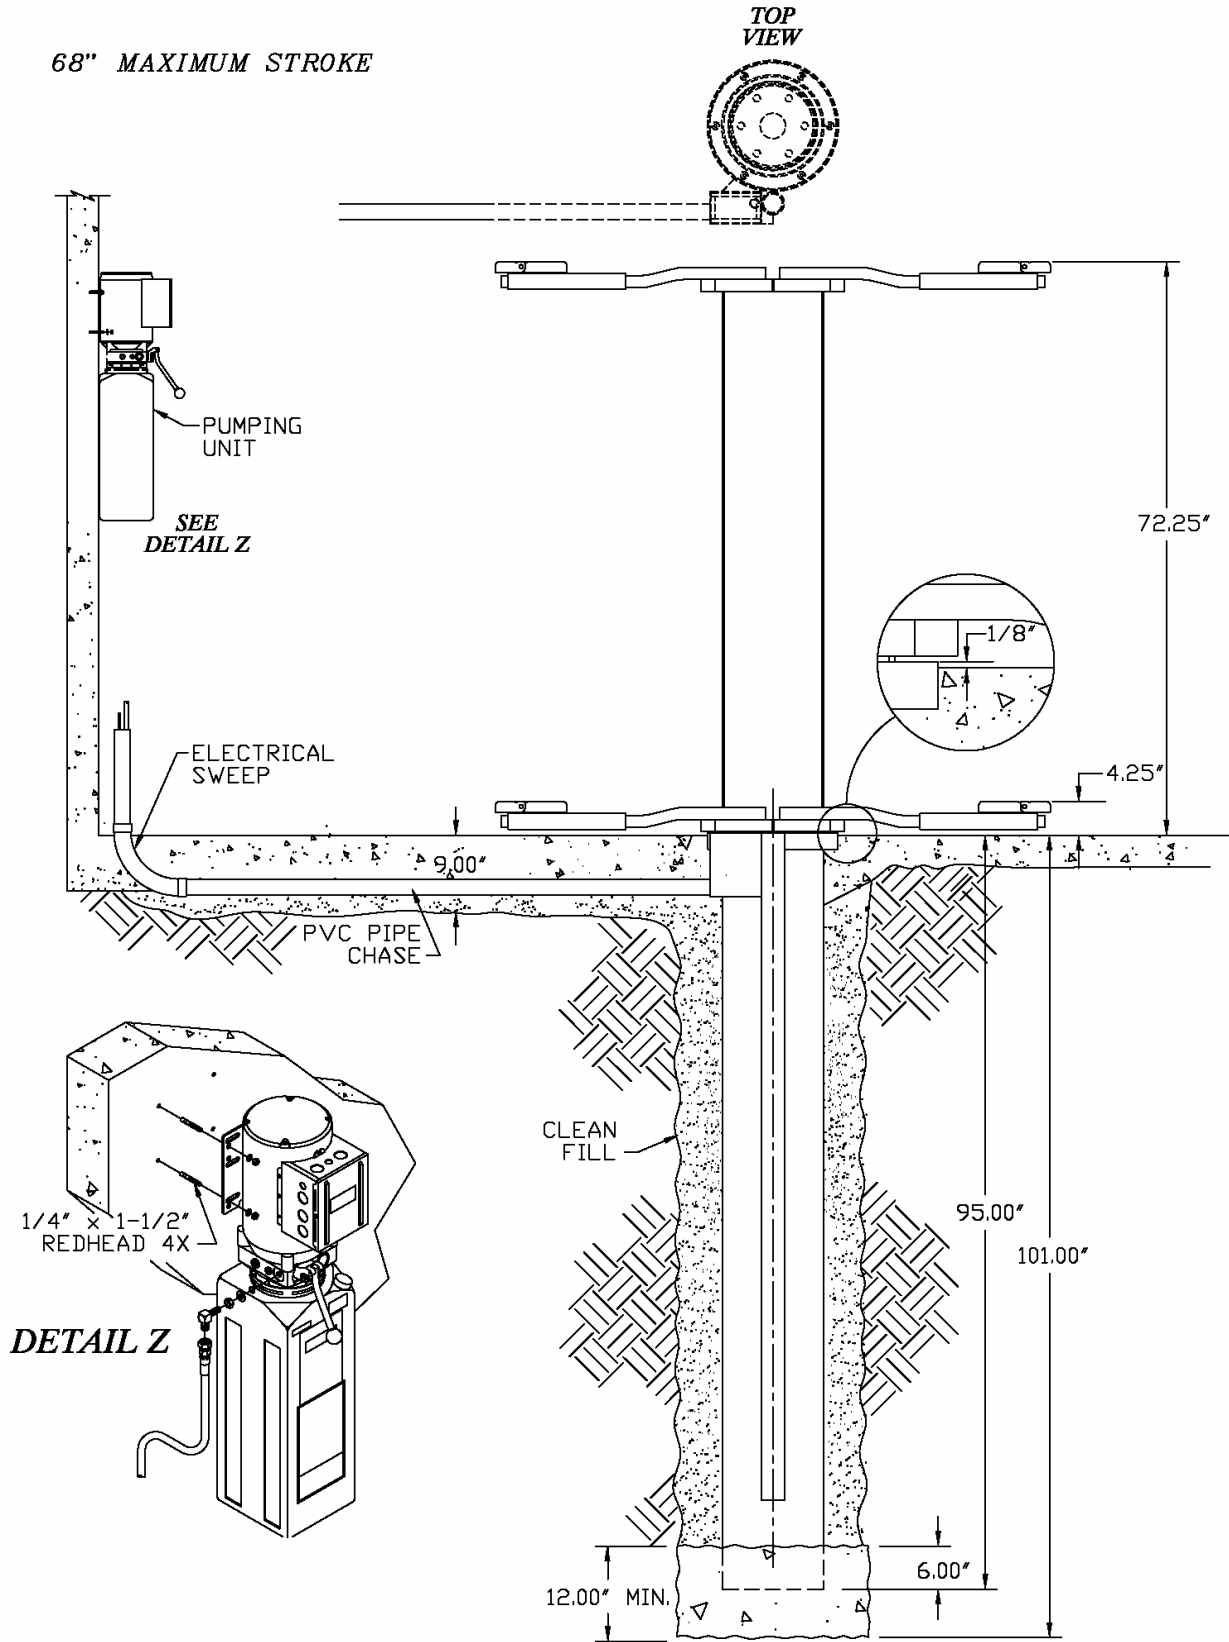

Figure 2 – Excavation
1. Dig a hole to accommodate cylinder, a minimum of 18" x 18" x 101" deep (See Figure 2)
5. Shovel wet mix concrete evenly around to a level at least 6" above bottom of cylinder. (See Figure 2).